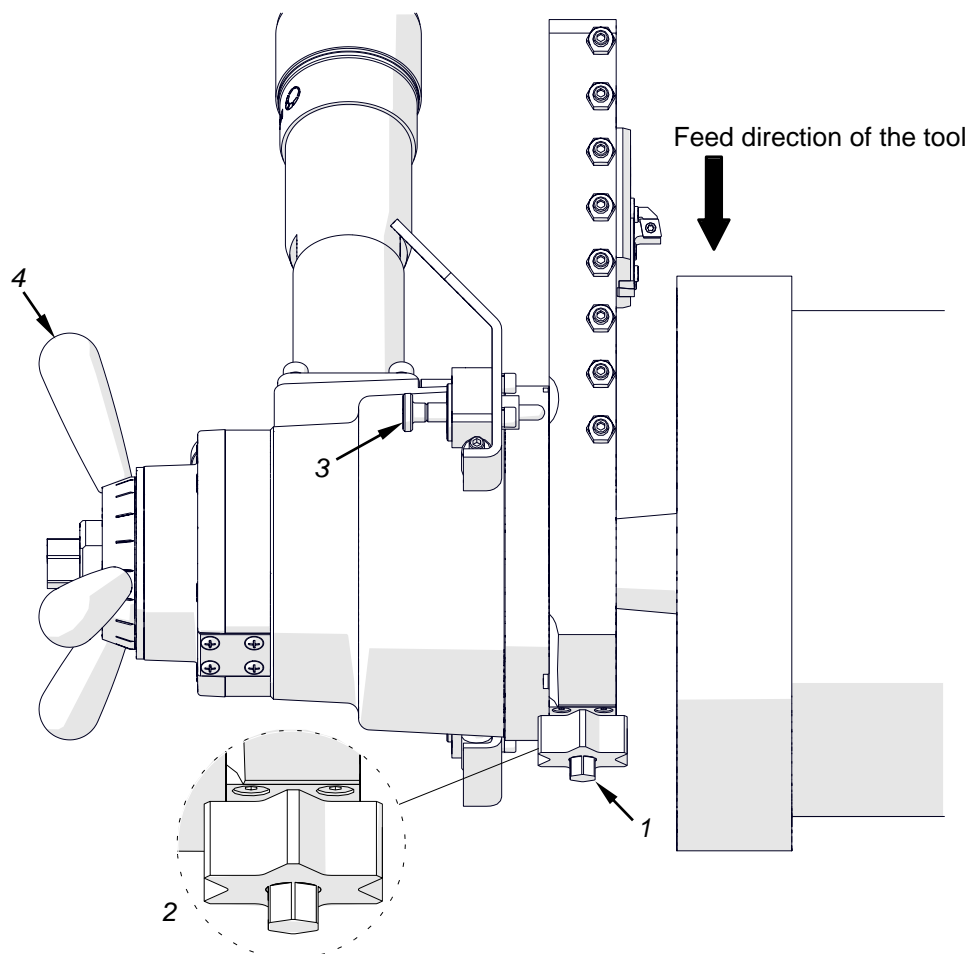

Fig. 10. Proper positioning of the flange facing attachment
After the machine with the attachment is clamped inside the pipe, use the 13 mm combination wrench to rotate the draw nut (1) so that the cutting edge of the tool is moved out of the flange outer diameter. Then, set the sprocket (2) to the position shown in Fig. 10, and push out both pins of the tripper blocks (3) to engage them with the attachment. Rotate the handles (4) to the right to set the machining depth to up to 0.5 mm (0.02") from the pipe end, and start the motor.